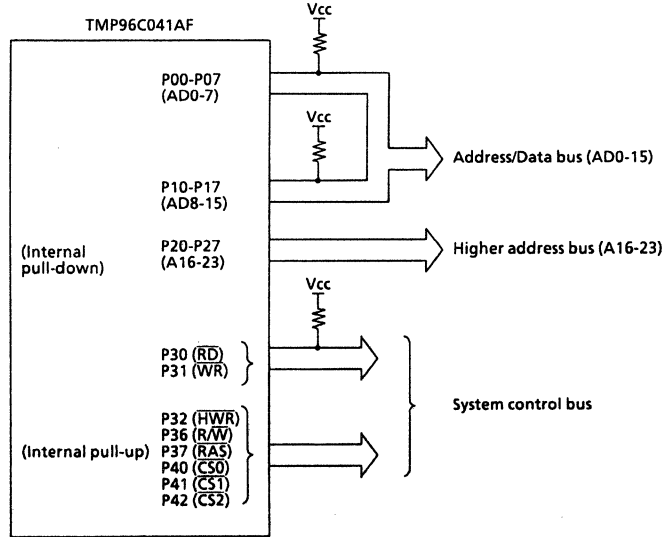

Figure 3.3 (1). Example of the Interface Circuit (Bus Releasing Function)
For the bus release function; show a sample of external bus interface in the Figure 3.3 (1).